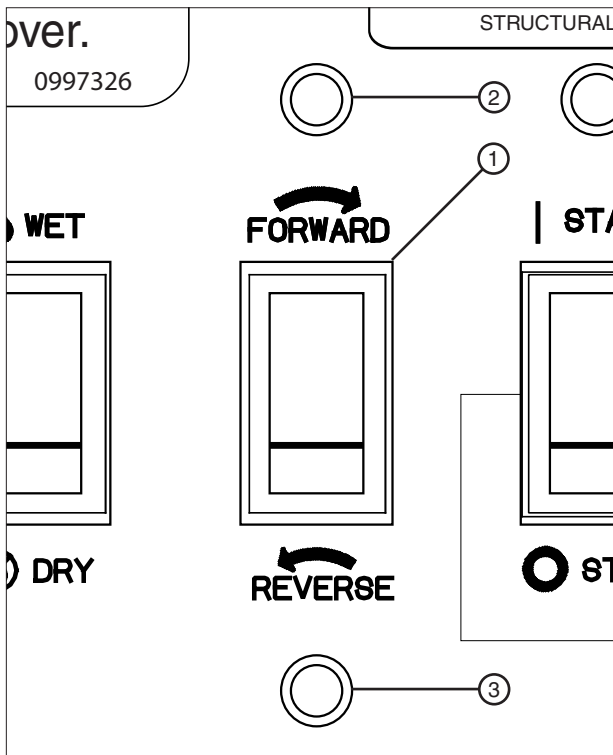

Figure 24-1 1. Forward / Reverse Switch
The forward and reverse lights are NOT available without the AR/AS option. See Figure 24-1.
- In the Forward position, the machine will run in forward or clockwise around the field when started. See Figure 24-1.
- In the Reverse position, the machine will run in reverse or counter clockwise around the field when started. See Figure 24-1.
The forward and reverse lights are included with the AR/AS option to indicate which direction the machine is moving. See Figure 24-1.
- When the switch is depressed into the forward position, the forward direction is selected, the forward light is lit and the machine will run in forward or clockwise around the field. See Figure 24-1.
- When the switch is depressed into the reverse position, the reverse direction is selected, the reverse light is lit and the machine will run in reverse or counter clockwise around the field. See Figure 24-1.